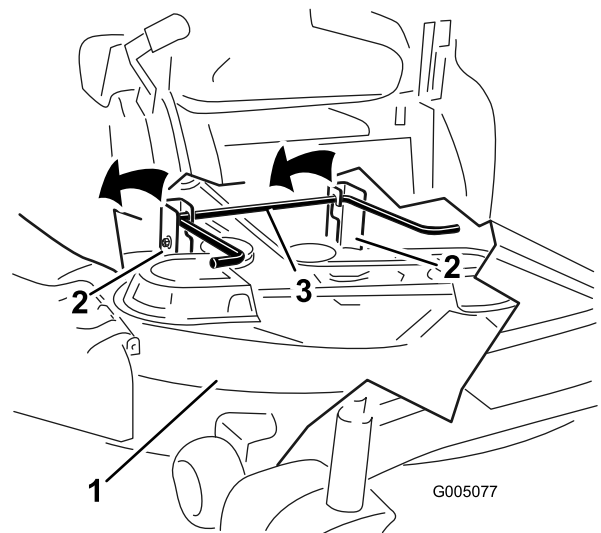

Figure 59
6. Lift the mower deck and hanger brackets clear of the rear lift rod and lower the mower carefully to the ground (Figure 59).
5. Lift the rear of the mower deck and guide the hanger brackets over the rear lift rod (Figure 59).